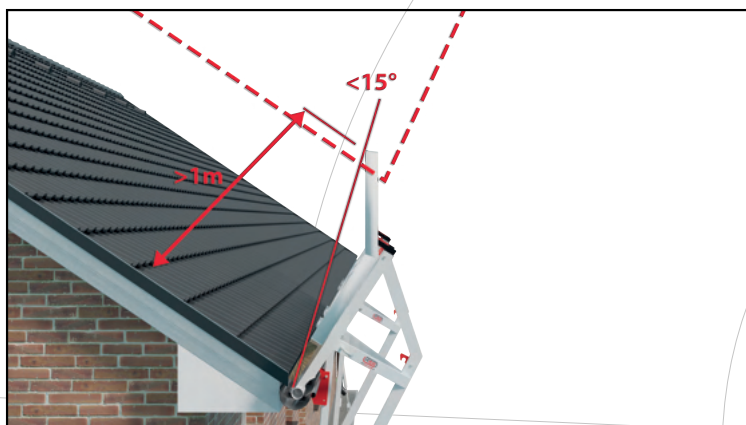

Figure 2
- The fence extends at least 1 meter perpendicularly above the roof plane and the angle between the edge board and top railing is a maximum of 15 degrees to the vertical. See Figure 2 on page 5.